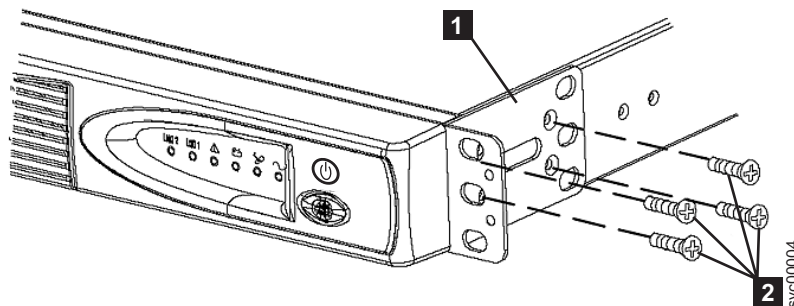

Figure 315. Installing the support rails for a 2145 UPS-1U into the rack
3. Attach the long side of a mounting bracket **1** to each side of the 2145 UPS-1U using four M3 × 6 screws **2** for each bracket, as shown in Figure 315.